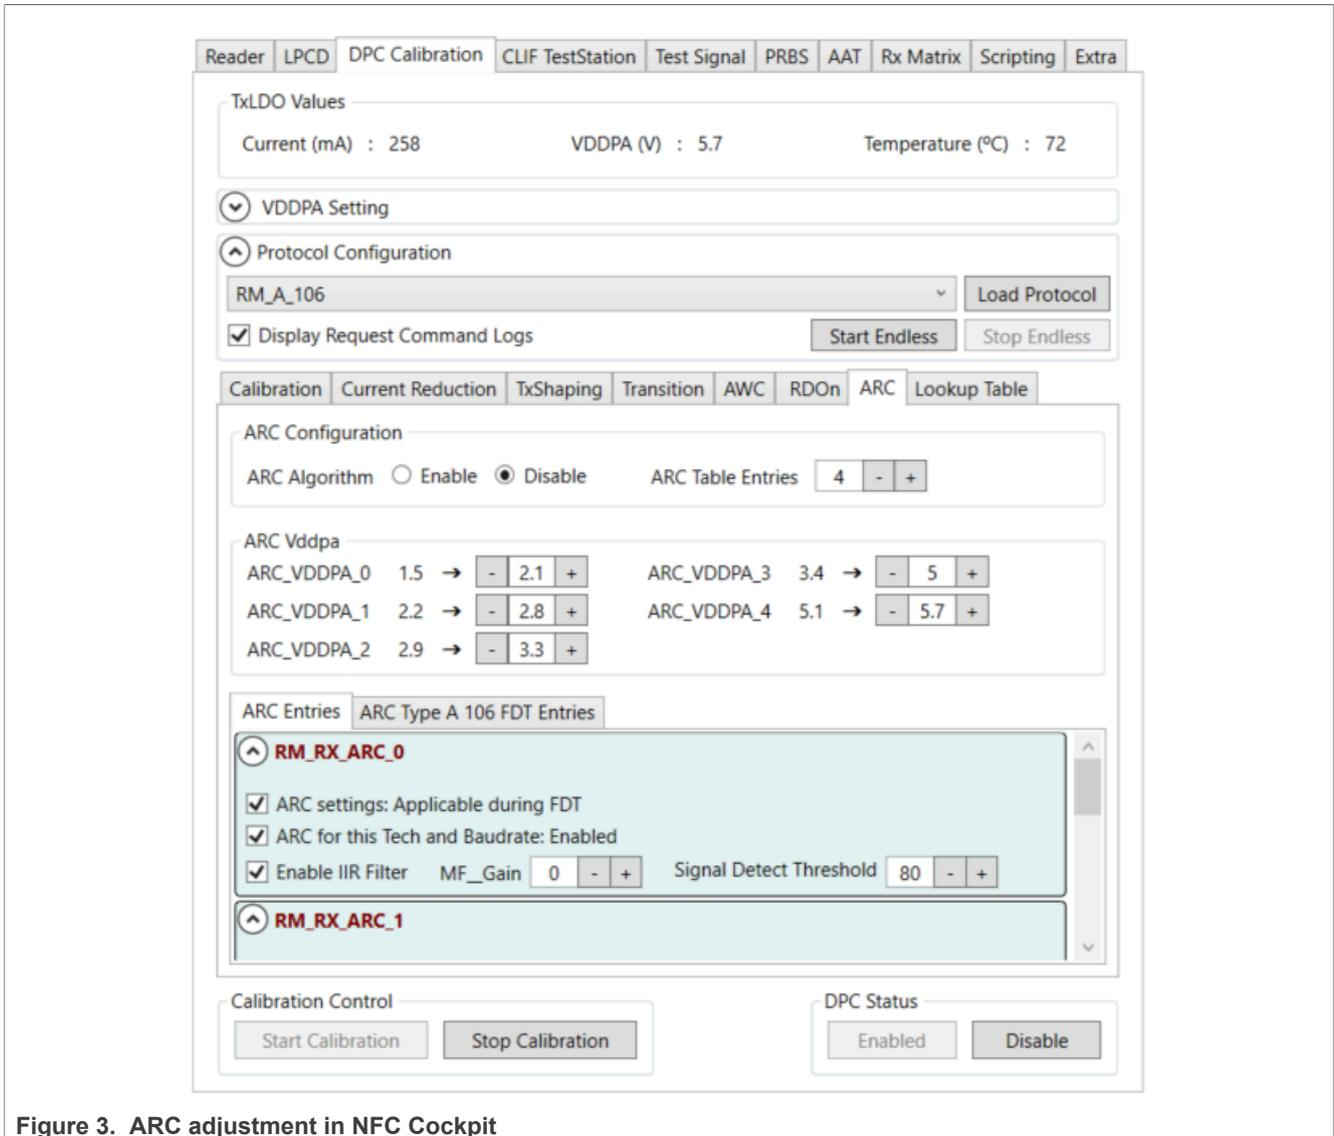

Figure 3. ARC adjustment in NFC Cockpit
**Note:** The best and least confusing way to adjust the ARC is to use the NFC Cockpit as shown in Figure 3.